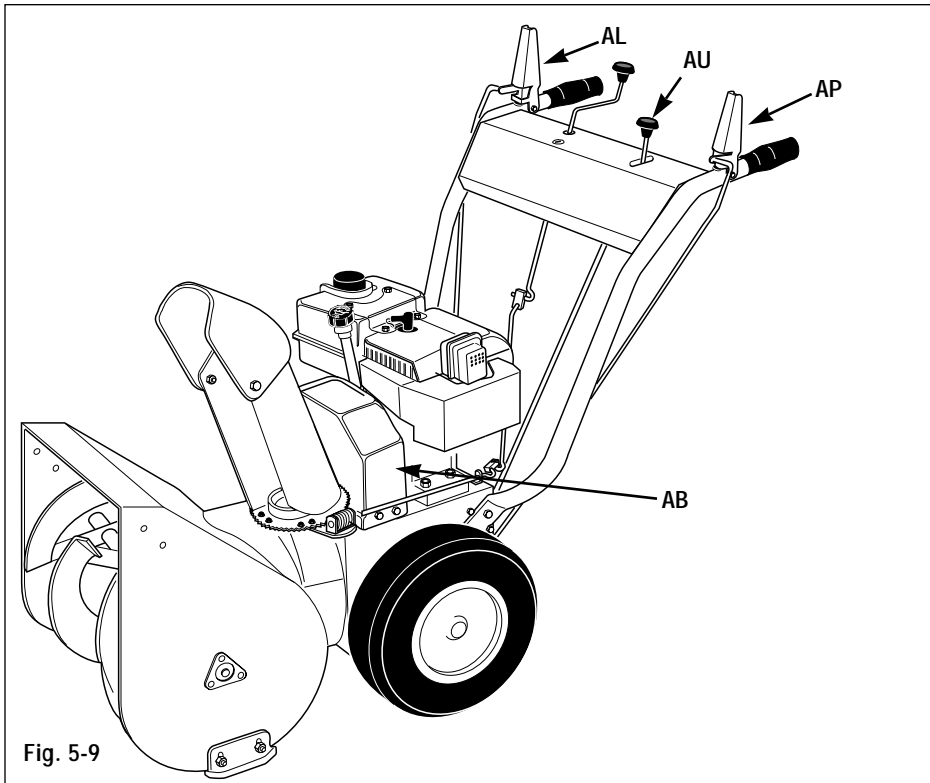
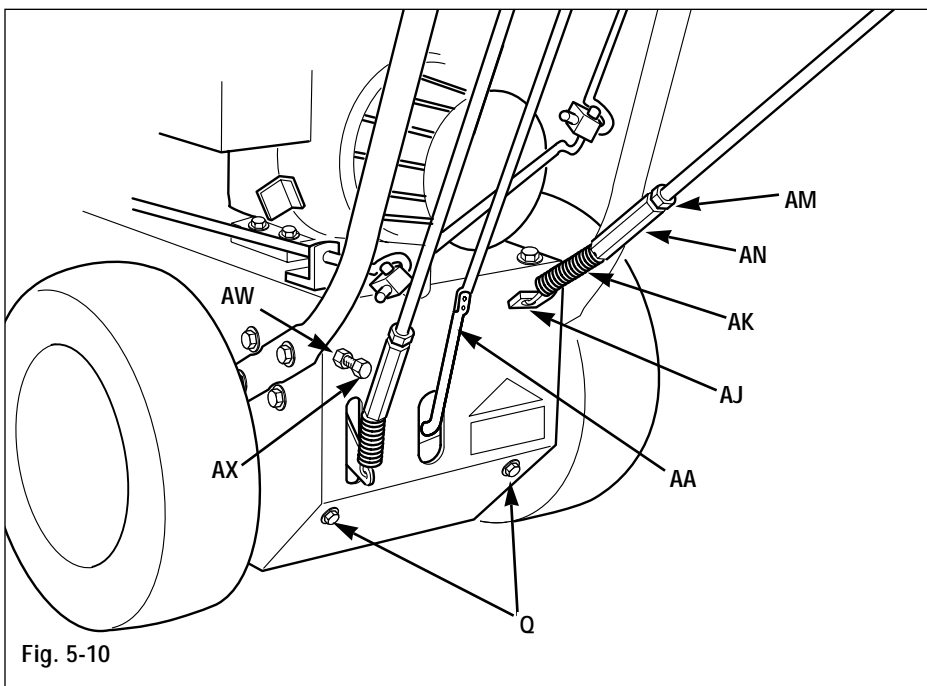
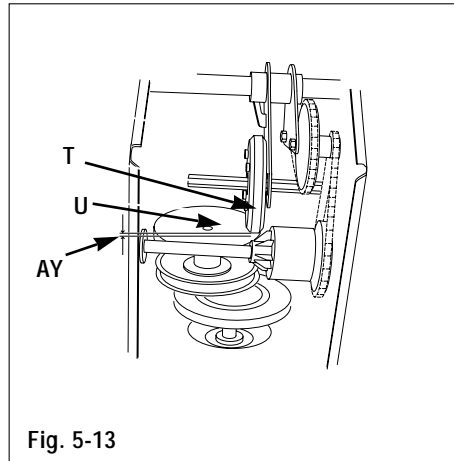
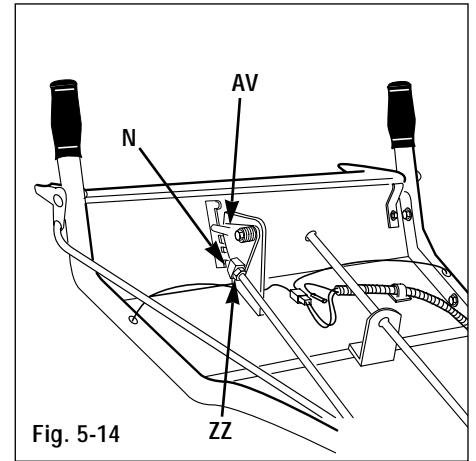

Fig. 5-9
Fig. 5-10
Fig. 5-13
Fig. 5-14
2. If assembling a new unit, raise the wheel drive control lever (AP, Fig. 5-9) and the auger drive control lever (AL).
3. Pull the auger drive control arm (AJ, Fig. 5-10) down completely.
4. Measure and note the length of the spring (AK, Fig. 5-10).
5. Squeeze the auger drive control lever (AL, Fig. 5-9) against the handlebar. Measure the length of the spring (AK, Fig. 5-10) again. The spring length should now measure $9/16'' - 11/16''$ (14–17mm) longer than the measurement taken in step 4. If it does not, loosen the jam nut (AM) and turn the adjuster (AN) to increase or decrease the length of the spring. Hold the adjuster and tighten the jam nut (AM) when the correct spring length is obtained. Re-check the measurements and adjust if needed.
1. Remove the bolts, flat washers, and lockwashers securing the belt cover (AB, Fig. 5-9) to the unit. Remove the belt cover.
1. Move the gear shift lever (AU, Fig. 5-9) to position No. 5. Remove the hairpin cotter and the flat washer from the pivot block (N, Fig. 5-14). Disconnect the pivot block (N) from the gear shift lever plate (AV, Fig. 5-14).
2. Pull the gear shift control rod (AA, Fig. 5-10) down completely.
3. While holding the gear shift control rod down (AA), loosen the jam nut (ZZ, Fig. 5-14) and thread the pivot block (N) up or down as needed so it fits into the hole in the gear shift lever plate (AV).
4. Reinstall the pivot block into the gear shift control lever hole and secure with the washer and hairpin cotter. Secure the jam nut (ZZ) against the pivot block (N).
5. Move the gear shift control lever (AU, Fig. 5-9) through the full range of travel. Check for binding. Refer to the drive disk clearance adjustment below, if needed.
If the gear shift rod lever does not move freely through all the gear positions, adjust clearance (AY, Fig. 5-13) as follows:
1. Loosen the jam nut (AW, Fig. 5-10). Rotate the adjusting screw (AX) until the rubber drive wheel (T, Fig. 5-13) contacts the metal drive disk (U).
2. Turn the rubber drive wheel (T) and the metal drive disk (U) to find the point of minimum clearance (AY). (This is where both the drive wheel [T] and metal disk [U] are touching.)
3. Adjust the disks at the point of minimum clearance. Loosen adjusting screw (AX) 1/2 turn. Secure the adjusting screw (AX) in place, while tightening the jam nut (AW).
4. Check the clearance (AY, Fig. 5-13) by moving gear shift lever (AU, Fig. 5-9) through all positions. Repeat step 3 as necessary.
1. Remove the bolts, flat washer, lock washer and belt cover (AB, Fig. 5-9).
2. Squeeze the auger drive control lever (AL, Fig. 5-9) against handlebar.